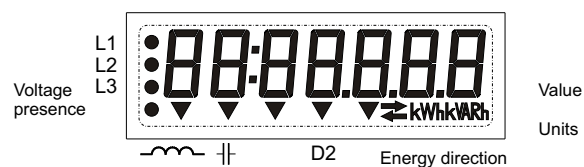

Fig. 1
- Display: LCD custom design 42x12 mm as shown in fig. 1